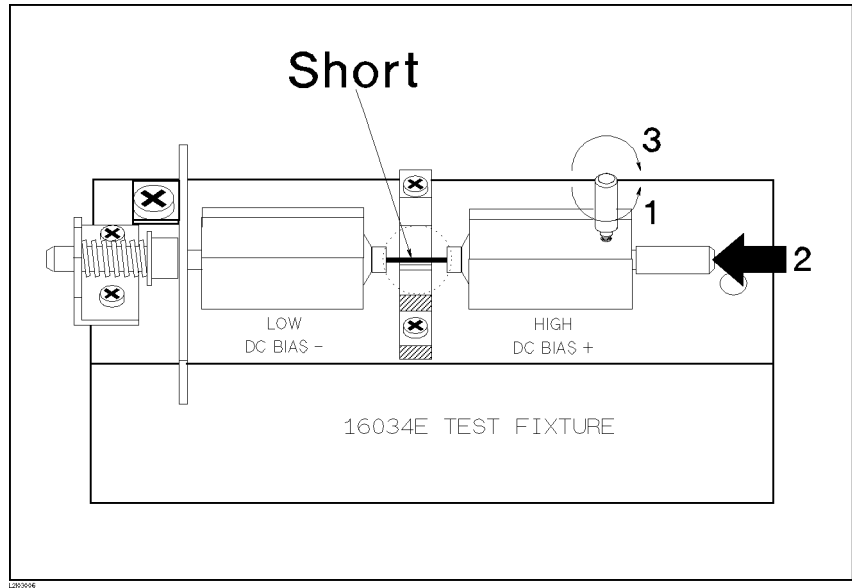

Figure 3-7. Make the 16034E to SHORT Condition
- f. Connect the 16034E's two electrodes directly together to make a SHORT as shown in Figure 3-7.
- iii. Tighten the knob as shown in Figure 3-7.